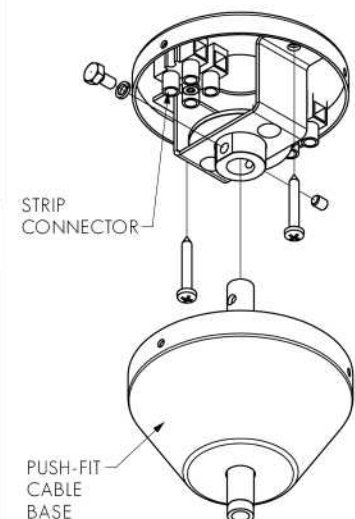

FIG. 5 - ENSURE SUSPENSION RODS ARE TIGHTLY SECURED
4. LIFT LIGHT ASSEMBLY AND INSERT SUSPENSION RODS INTO CEILING BRACKETS, STARTING WITH THE POWER SUPPLY END. ADJUST REMAINING ROD SUSPENSION POSITIONS BY LOOSENING COLLARS AND REPOSITIONING. LOCK IN TO PLACE BY TIGHTENING GRUB SCREW ON ONE SIDE AND HEX HEAD SCREW ON OTHER SIDE, ENSURING HEX HEAD SCREW FITS THROUGH 4MMØ HOLE IN SUSPENSION ROD. (SEE FIG. 5)